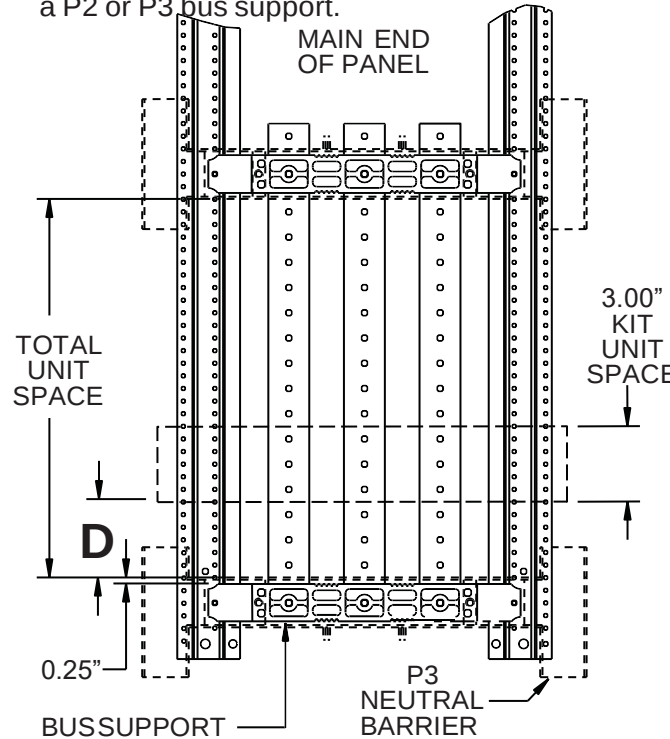

Fig. 1
3. Refer to Fig. 1 For taking unit space measurements in P2 panels, use the bus support located farthest from the main lug or device end of the panel. For P3 panels, use the neutral barriers (if present) or the bus supports (in panels without neutrals). Note that unit space starts at the inner surface of a P3 neutral barrier and 0.25" from the inner surface of a P2 or P3 bus support.
4. This kit requires 3" of unit space. Determine the location where the kit is to be installed. The kit positioning dimension D in Fig. 1 must be a multiple of 3" (e.g.: 0", 3", 6", 9", etc.). These measurements can be taken directly from a P3 neutral barrier. For measurements taken from a P2 or P3 bus support, add 0.25" to D (e.g.: 0.25", 3.25", 6.25", 9.25", etc.).